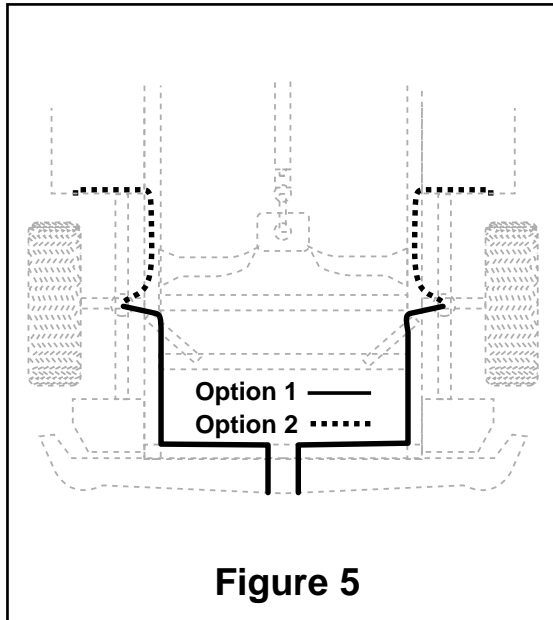

Figure 5
A. Select a location for the inflation valves in the rear bumper area or rocker panel flange insuring that each valve will be protected and accessible with an air hose (Figure 5).
C. Route air line from inflation valve location along frame rail to bellows. Route the air line so that it will be protected from the direct heat from the muffler or tailpipe and kept away from sharp edges. The air line should not be bent or curved sharply. (Figure 5). Attach air line to chassis with the provided plastic straps.